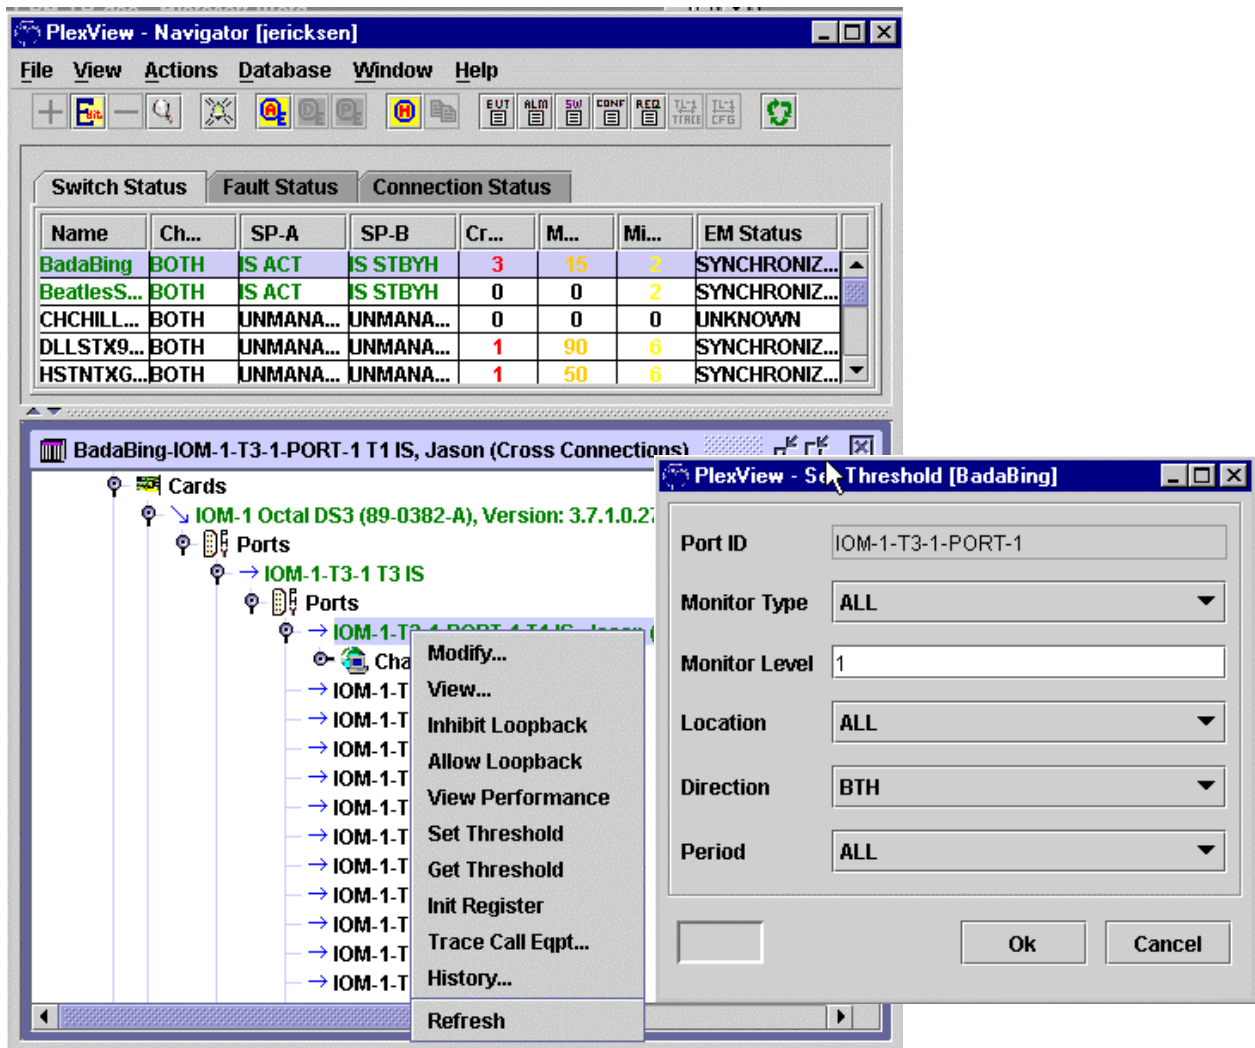

Figure 4. Modify T1 PM Thresholds
10. Initialize thresholds for T1 monitored data. Double-click *Switch*, *Switch name*, *Cards*, desired *IOM*, *Ports*, desired port, and *Ports*. Right-click desired port, select *Set Threshold*. Make required changes and then click *Ok*. See Figure 4. Reference **DLP-537** for detailed information for the command.
12. Initialize thresholds for T1 monitored data. Double-click *Switch*, *Switch name*, *Cards*, desired *IOM*, *Ports*, desired port, and *Ports*. Right-click desired port, select *Set Threshold*. Make required changes and then click *Ok*. See Figure 4. Reference **DLP-537** for detailed information for the command.